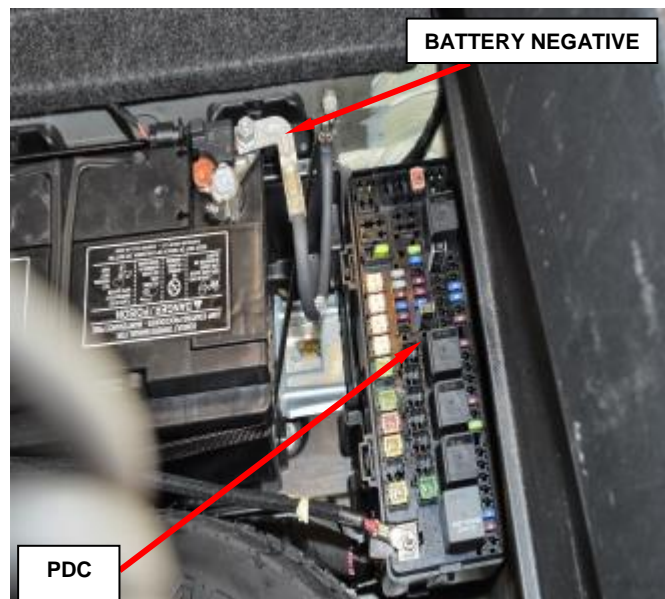

Figure 28 – Battery Negative
1. Disconnect and isolate the battery negative cable then remove the two Airbag Module fuses from the Power Distribution Center (PDC), see the PDC cover for the fuse locations. Wait two minutes for the system capacitor to discharge before further service (Figure 28).